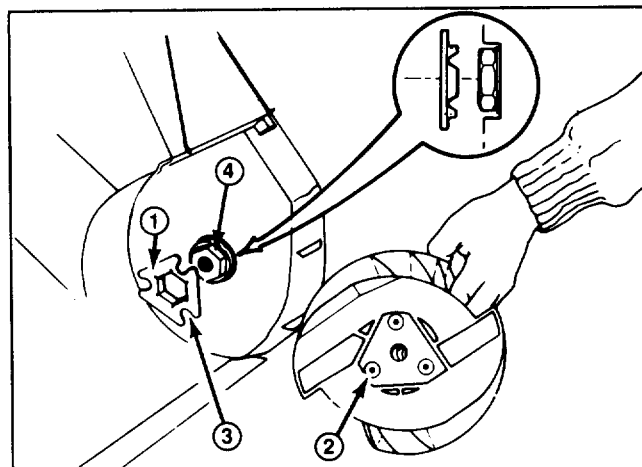

Figure 14
6. Align left side of new rotor with coupler. The 3 bosses on rotor end must align with slots on coupler (Fig. 14). When mounting coupler to drive hex, coupler tabs must be aligned to inside. Slide right side of rotor into mounting position.